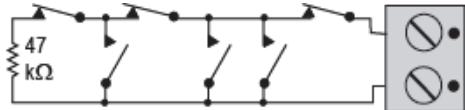

Figure 4. E.O.L. Wiring Example
2.2 Auxiliary Input Wiring (Fig. 4)
Normally Closed (N.C.) sensor contacts can be used, as shown in Figure 4. A 47 kΩ E.O.L. resistor may be wired at the far end of the zone loop.